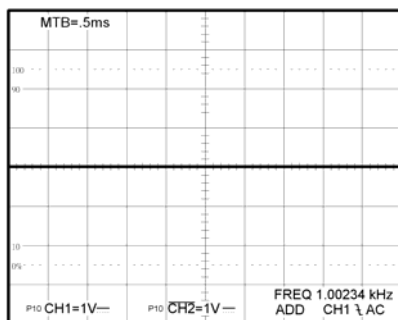

Figure 5-4 Display 2
9. The figure 5-4 below shows a satisfactory display. The display will show a flat trace located on the center graticule that confirms the channel balance and ADD offset function.